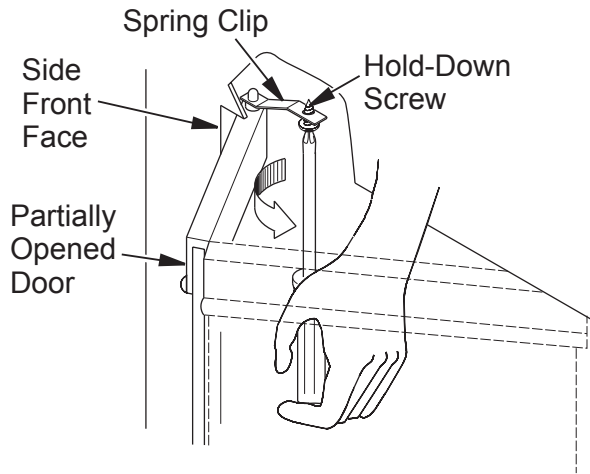

Figure 31 - Adjusting Glass Doors
7. To adjust doors, slide them partially open. Using a screwdriver, loosen the hold-down screws in spring clip (see Figure 31, page 17) and pivot plate.